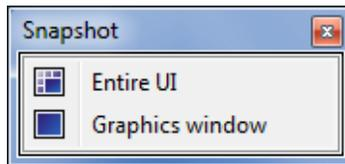
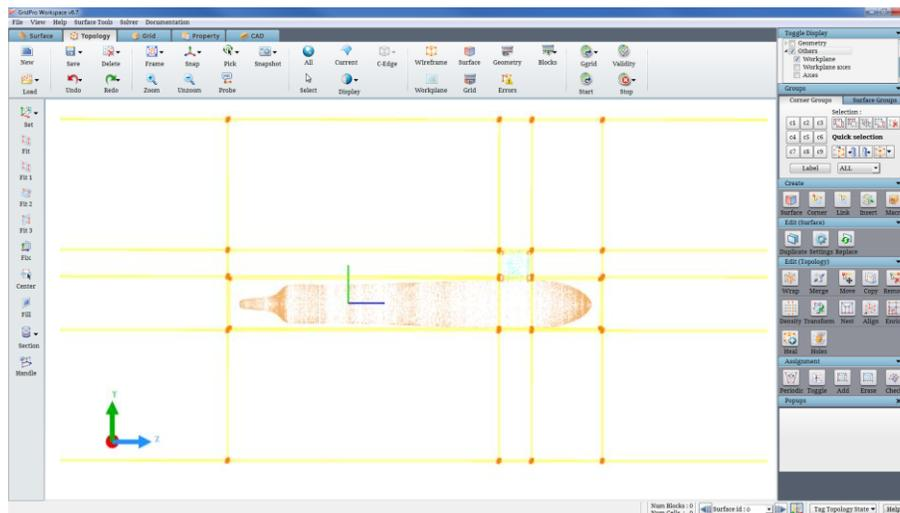
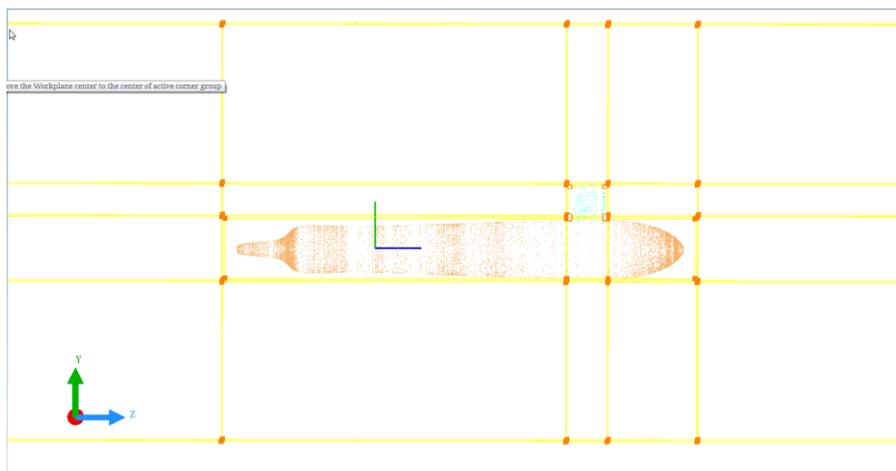

Figure 2.60: Snapshot drop-down list
Figure 2.60a: Snapshot of Entire UI
Figure 2.60b: Snapshot of Graphics Window
*Snapshot* button is used for capturing the GUI region. It has two options i.e. *Entire UI* and *Graphics window* as shown in Figure 2.60. By default, if clicked, it captures the GUI region as shown in figure 2.60a. Entire UI option captures the whole GUI and Graphics window option captures the graphics window of GUI as shown in figure 2.60b. Once clicked, a file dialog box with a default name shows up. The default name for the snapshot file is “Snapshot-ws-year-mm-dd-hh-min-sec.png”. The default path for the snapshot is Current working directory. You can change the path of the file. You can save the file in png, and .bmp format.